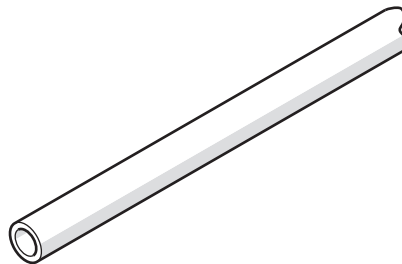

Fig. 2.1
- 2 Fig. 2.1 shows part of a length of  $\text{Ø}20$  aluminium tube that will be cut into 50 mm long pieces.